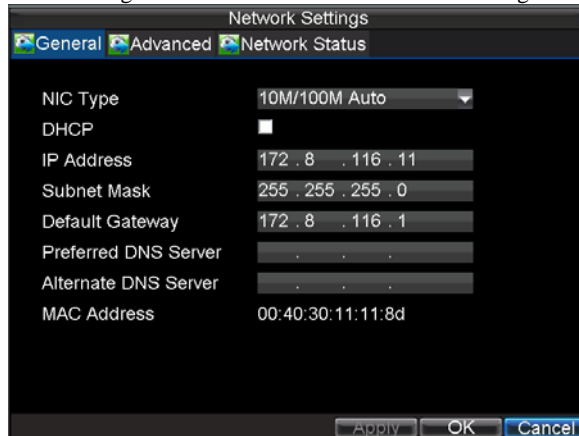

Figure1. Network Settings Menu
1. Click Menu > Settings > Network to enter the Network Settings menu, shown in Figure 1.